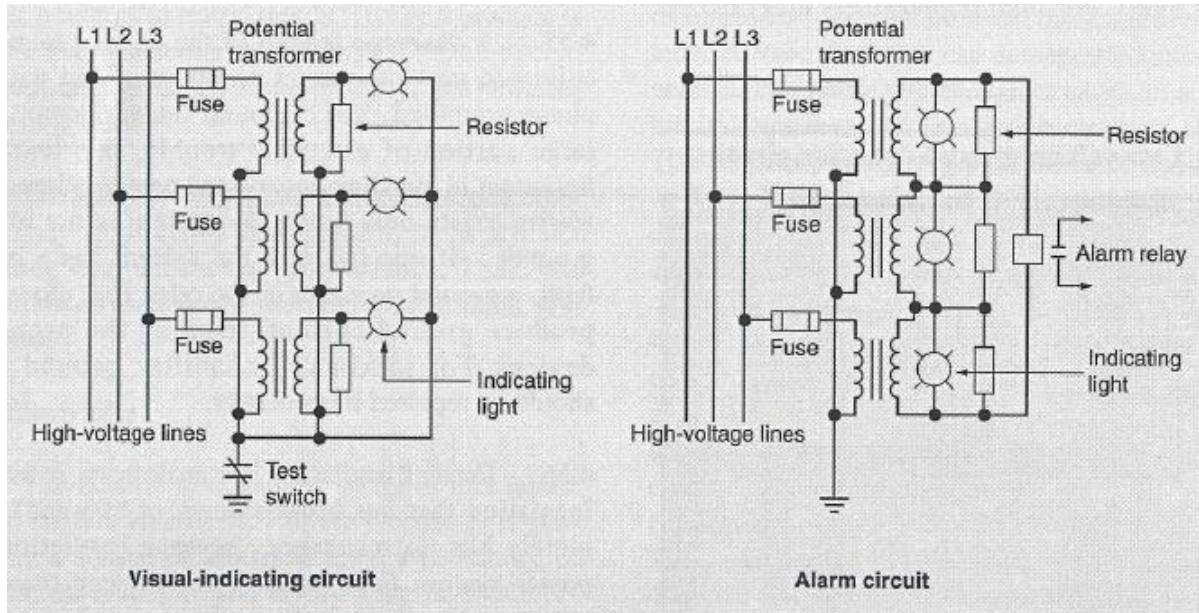

Figure 4.14: Ground-Indicating Circuits
- 4-45 A circuit that provides a visual indication of a grounded phase conductor is shown at the left in Figure 4.14. It consists of three potential transformers connected Y-Y, with neutrals grounded. Although the potential transformers are connected line-to-neutral, they must have a rating equal to the line-to-line potential difference. Either voltmeters or indicating lights may be used as detectors.
- 4-47 A commonly used circuit that sounds an alarm to indicate a grounded phase conductor is shown by the diagram at the right in Figure 4.14. This circuit not only provides a visual indication of a grounded conductor (by means of the indicating lights), but also operates a relay that sounds an alarm.